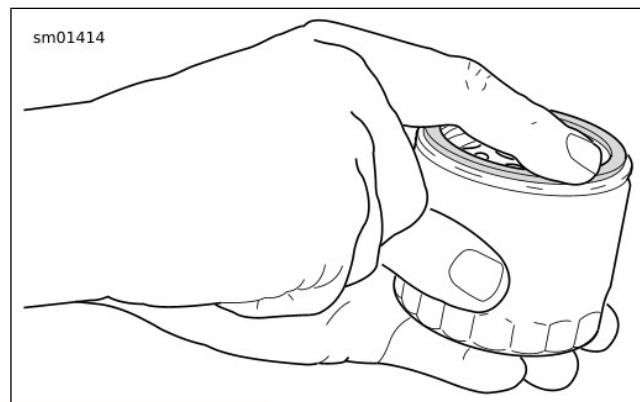

Figure 53. Lubricating New Oil Filter Gasket
7. See Figure 53. Install **new** oil filter.